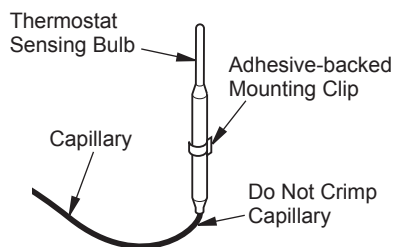

Figure 36 - Positioning the Thermostat Sensing Bulb in the Vertical Position with the Capillary at the Bottom
4. The mounting clip must be a minimum of 3" from bottom of fireplace to prevent crimping of capillary. Once you have decided on a location, clean the area thoroughly. Remove the paper backing from the adhesive on back of mounting clip. Press the clip into the new location so that the thermostat sensing bulb will be positioned vertically with the capillary at the bottom (see Figure 36). Slide the thermostat sensing bulb into the clip.